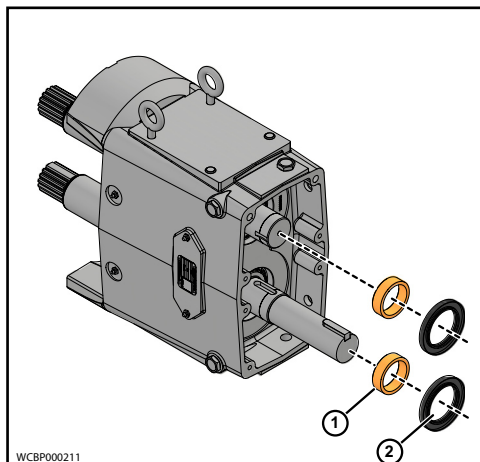

Figure 81 - Install Oil Seal and Spacer
1. Install the spacer seals and gear spacers (1), as shown in Figure 81.
2. Lubricate the inside and outside diameters of the oil seals (2) with grease.
3. Install the oil seals (2) with the spring facing out, as shown in Figure 81.